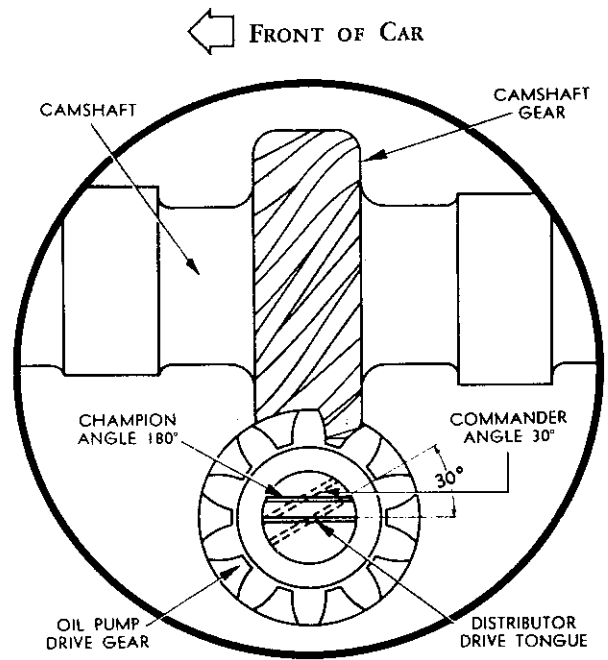

FIG. 106.—OIL PUMP TONGUE POSITIONS 6A AND 14A
**CHAMPION AND COMMANDER** To obtain the correct ignition timing, be sure that the oil pump shaft tongue which drives the distributor is assembled properly. This tongue can be seen by looking down the distributor shaft hole. Figure 106 illustrates the correct position of the oil pump shaft tongue with the No. 1 piston in its firing position.